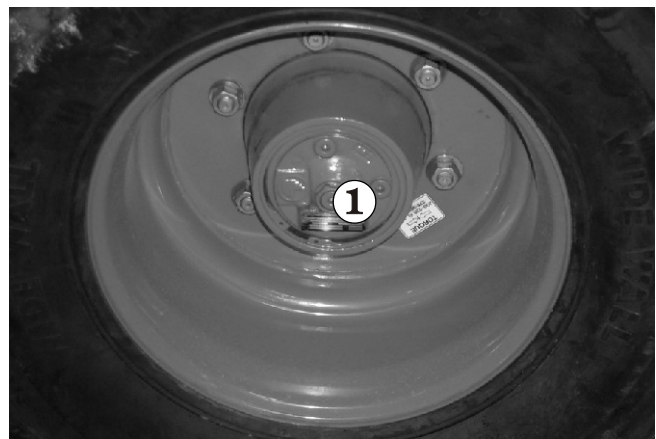

Figure 9.6—Drive Wheel
6. At each drive wheel, use a 30mm socket to unscrew (anticlockwise) the free wheel nut **1** (refer to Figure 9.6).